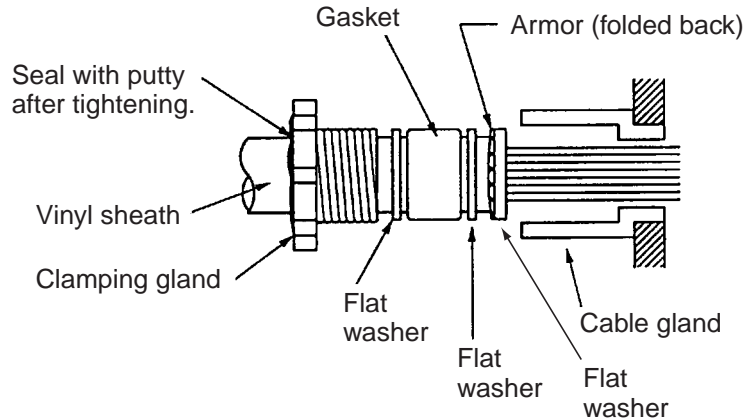

Figure 2-9 Passing clamping gland, washers and gasket on the multicore cable
5. As shown in Figure 2-9, slide the clamping gland, flat washers and gasket on the multicore cable.
6. Fold back armor by 5 mm and pass it through the two flat washers as shown in Figure 2-9.